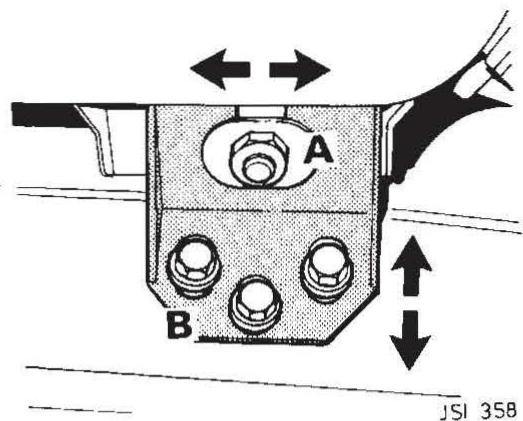

FIG 7
2. Any significant front profile adjustment will entail alteration of the underpanel mountings (B Fig 7).
NOTE: Adjustments for panel centralisation are achieved by releasing A Fig 7.
3. Major height adjustment will necessitate alteration of the underpanel mountings. Refer to front profile adjustment, operation 7A and B Fig 7.